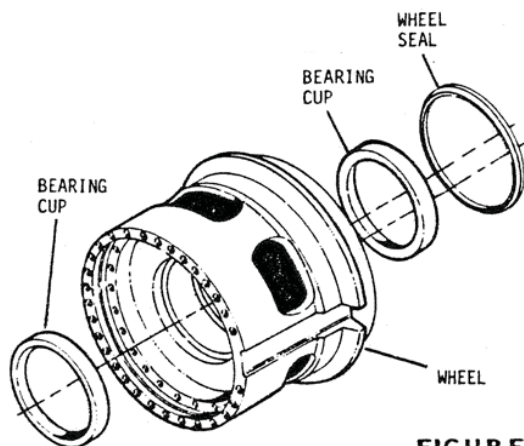

FIGURE 18
E. Drive Wheel Assembly - Figure 18.